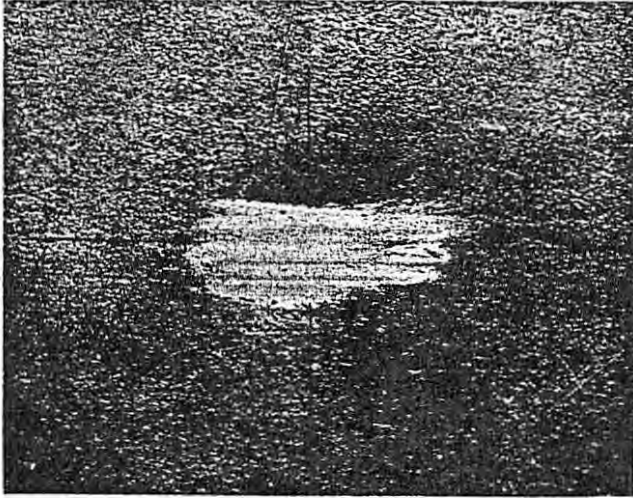

Figure 5-62. Abrasion Area After Rework
2. After the area has been etched for approximately three (3) minutes, clean by swabbing with the nitric acid solution recommended, afterward swabbing off the area with clean, warm water.
4. If no cracks are evident, polish the treated area to remove all traces of the etch as shown in figure 5-62.